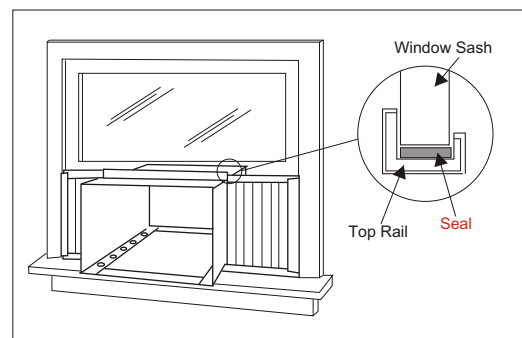

Fig. 11
B. Ensure the top rail is positioned in front of the sash. The "U" shaped channel on the bottom of the cabinet should be positioned in the track provided on the bracket assembly. Pull the window down until it rests just behind the top rail. See (Fig. 11).